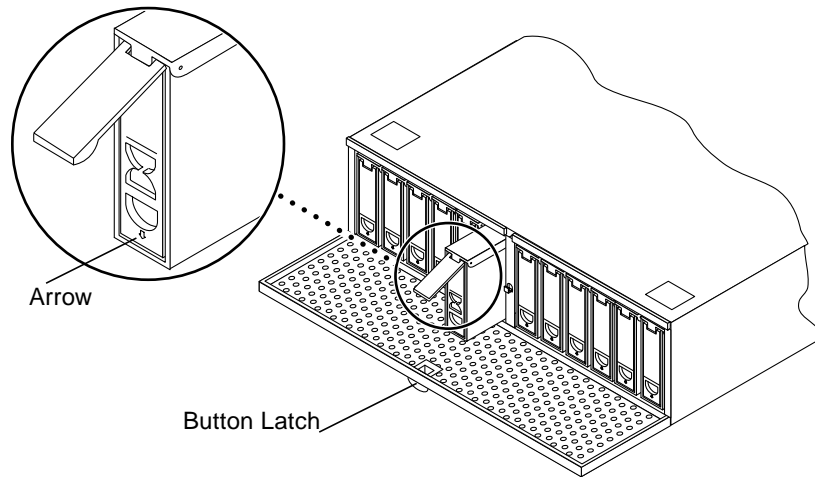

FIGURE 3-1 Removing and Replacing a Sun StorEdge D1000 Hard Disk Drive
Push down the button latch at the center of the door (FIGURE 3-1).
Push down in the direction of the arrow to release the latch (FIGURE 3-1).
1. Hold the locking handle on the disk drive open (FIGURE 3-1).